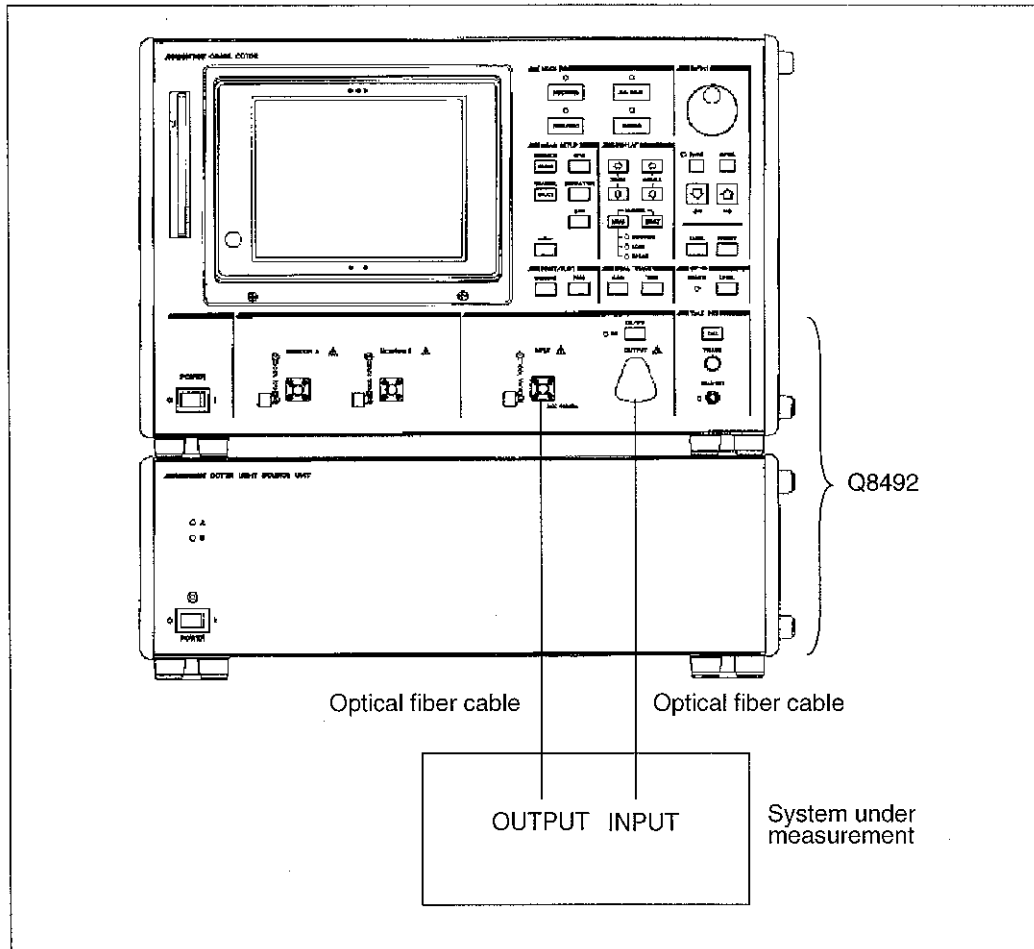

Figure 3-4 Connection with System Under Measurement
- ① Connect the INPUT connector of the system under measurement to the Q8492 OUTPUT connector with the optical fiber cable as shown in Figure 3-4.
- ② • Connect the OUTPUT connector of the system under measurement to the Q8492 INPUT connector with the optical fiber cable as shown in Figure 3-4.